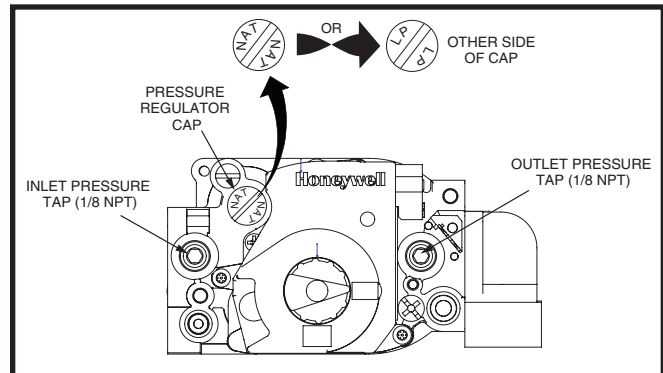

Figure 27. Honeywell Gas Valve
- Plugged tappings (1/8" NPT) for test gauge connection are present on the gas valve. See Figure 27 \(page 17\) for locations.
requires replacement of the burner orifice and flipping the regulator cap to the side marked LP. The orifice required for conversion is supplied with the furnace. See Figure 27.
6. Unscrew the pressure regulator cap and check for the letters NAT or LP. See Figure 27 \(page 17\).
1. Remove the inlet pressure plug from the INLET side of the gas valve with a 3/16 Allen wrench. See Figure 27.
1. Remove the manifold pressure plug from the outlet side of the gas valve with a 3/16 Allen wrench. See Figure 27 \(page 17\).
6. Replace the cap so that the letters facing up represent the type of gas being used for the furnace. See Figure 27 \(page 17\).